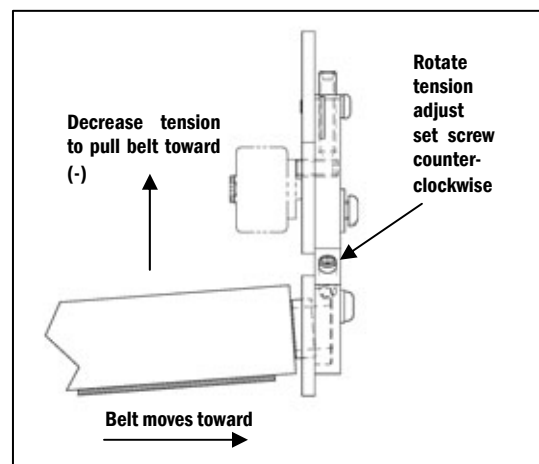

Figure 11
- On the opposite side of the conveyor from the previous adjustments, turn the tension adjust set screw counter-clockwise (threading out). Decreasing tension on this side will pull the belt toward this side (**Figure 11**).